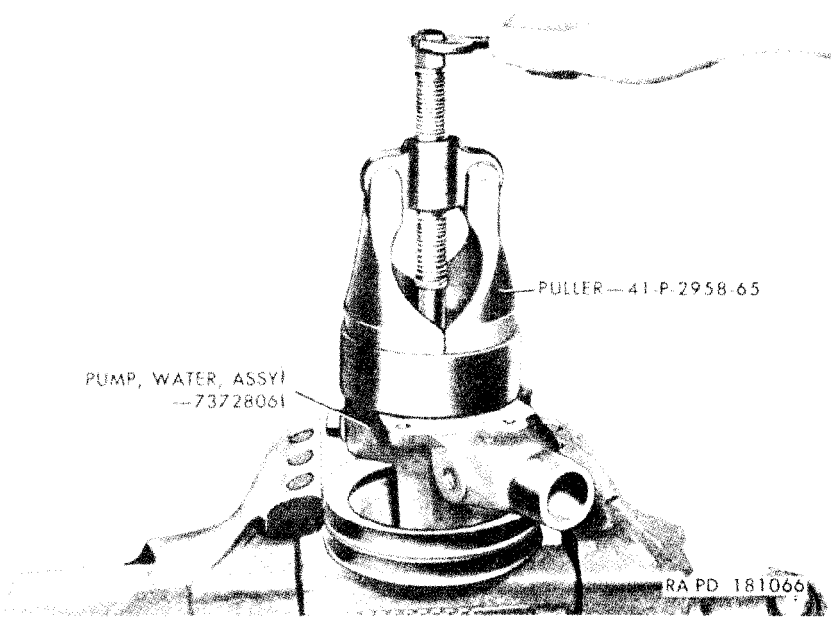

Figure 55. Removing water pump impeller.
b. Clamp the water pump in a bench vise and remove the water pump impeller (figs. 55 and 58) using puller 41-P-2958-65.